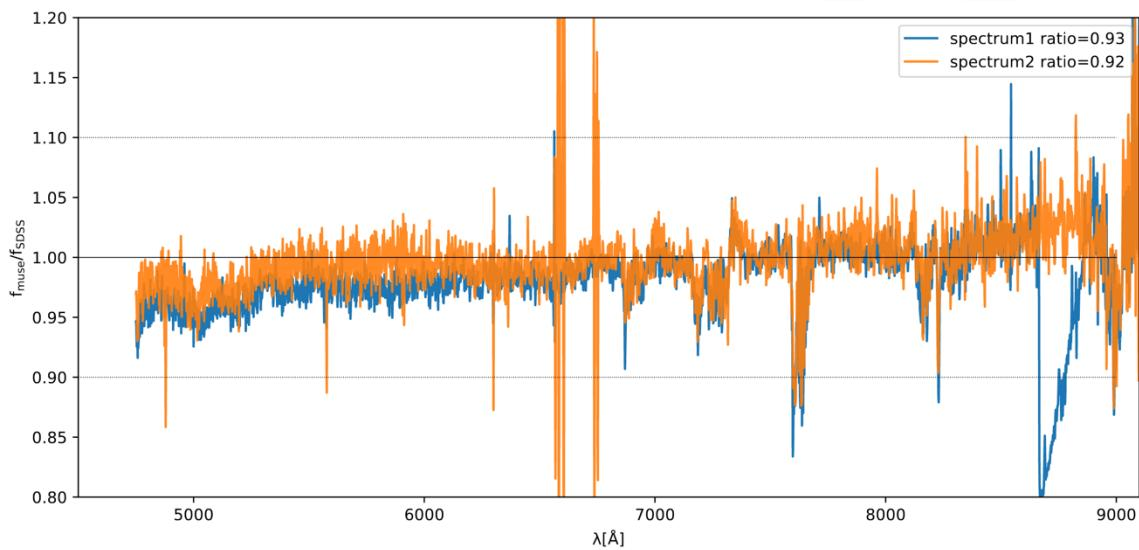

Fig. 15: flux QC.
- Open the file, it should look like Fig. 15